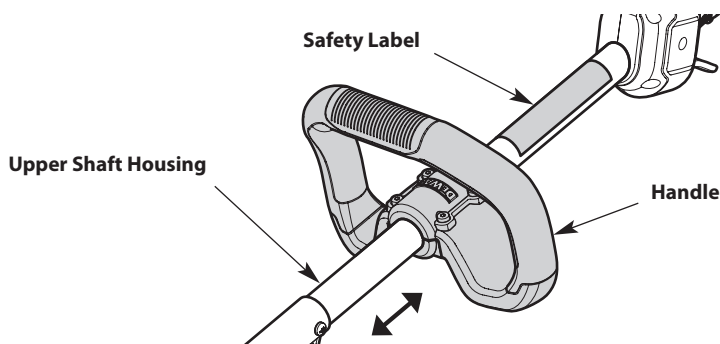

Fig. 5
5. Hold the unit in the operating position (Fig. 13). Move the handle up or down the upper shaft housing to a comfortable location (Fig. 5). Make sure the handle is positioned beyond the end of the safety label (Fig. 5).
2. Hold the unit in the operating position (Fig. 13). Move the handle up or down the upper shaft housing to a comfortable location (Fig. 5). Make sure the handle is positioned beyond the end of the safety label (Fig. 5).